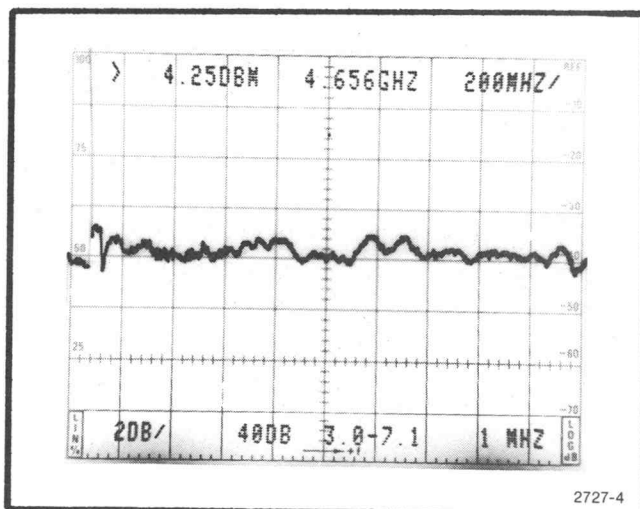

Fig. 3-6. Typical display showing frequency response from a sweeping signal source.
h. Set the sweep generator span so it sweeps from .01 to 2.2 GHz. Set the generator sweep mode for automatic internal sweep at its slowest sweep time (100 seconds). Monitor the power output as the generator sweeps across the span to ensure that the output remains constant. The frequency response (deviation from the mean average) must not exceed ± 1.5 dB. A typical response for the frequency range of 3.6 to 5.6 GHz is shown in Fig. 3-6.
d. Slowly tune the frequency of the signal generator from 100 kHz to 10 MHz, monitoring the output to ensure it remains constant. Note the frequency response (amplitude deviation above and below the average). Frequency response or amplitude deviation must not exceed ± 1.5 dB. (See Fig. 3-6 for the average level.)
h. Check the frequency response as the sweep generator scans across the 10 MHz to 2 GHz span. Deviation must not exceed ± 1.5 dB. (See Fig. 3-6.)